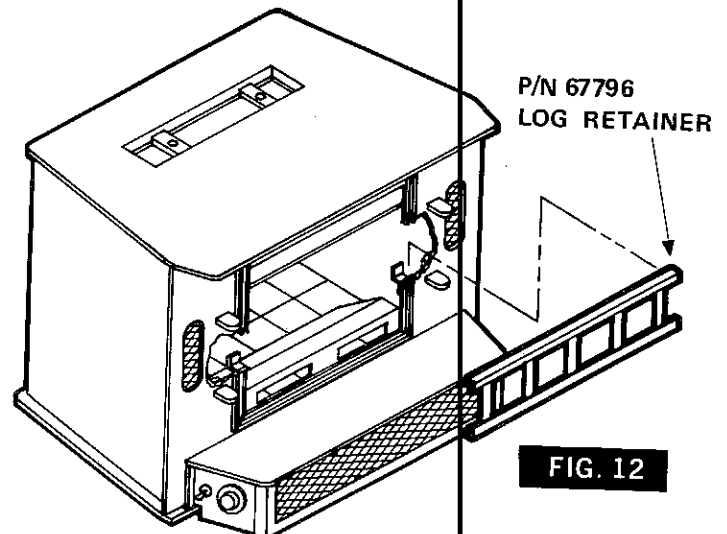

FIG. 12
2. Install log retainer on the hangers located just inside the door opening as shown in Figure 12.